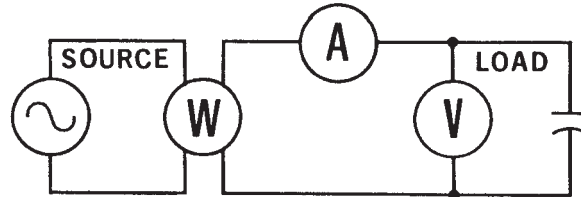
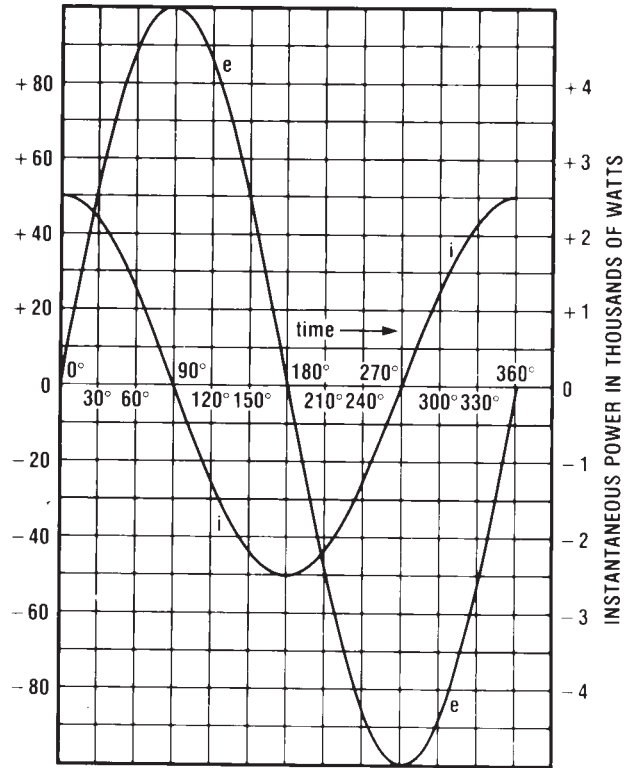

Figure 14-6.
Figure 14-7.
3. The load for the circuit shown in Figure 14-6 is capacitive. With a capacitance load the current leads the voltage by 90° . (The current has exactly the same wave shape as in procedures 1 and 2, but is simply shifted by 90° to the left). The AC current meter indicates 35.3 A (rms) and the AC voltmeter indicates 70.7 V (rms).
4. The voltage and current waveforms for the circuit of Figure 14-6 are shown on the graph of the Figure 14-7.
- 6. Plot your calculated 45° interval power values on the graph of Figure 14-7, and draw the power curve through these points. Remember, that the power curve is sinusoidal and goes through two complete cycles for every single cycle (360°) of the voltage or current.